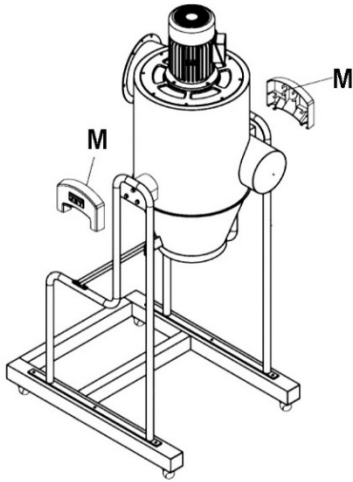

Figure 7
8. Install side cover (M) on left and right stands. See Figure 7.